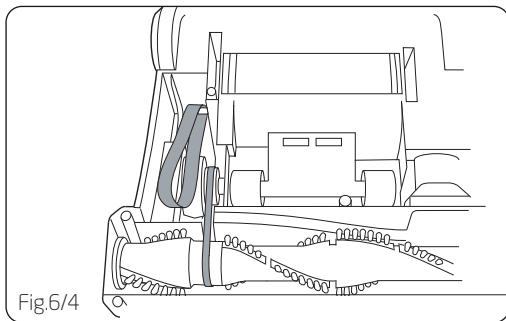

Fig.6/4
With lettering on outside of belt, slide new belt over motor shaft (A) (Fig.6/5).